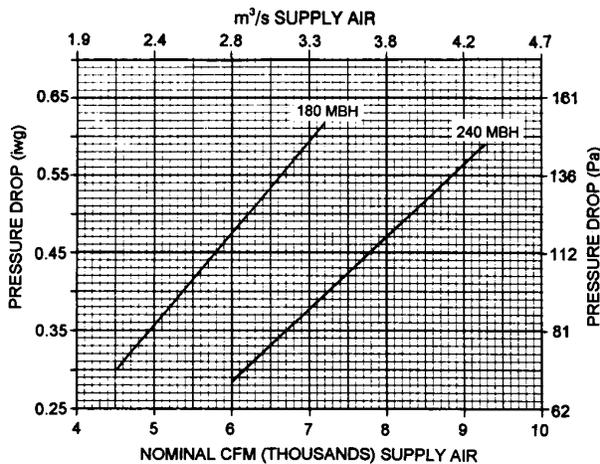

FIGURE 20 : PRESSURE DROP ACROSS A DRY INDOOR COIL VS. SUPPLY AIR CFM
4. Knowing the pressure drop across a dry coil, the actual CFM through the unit and clean 2" filters, can be determined from the curve in Figure 20.
5. On the inside of the flue collector box, remove the flue baffles from the tube interiors. Note the last bend of the baffle fits tightly against the tube forcing the end of the baffle to lock into the tube collar. This collar is formed when the tube is expanded into the end sheet. To remove, move the end of the baffle toward the center of the tube releasing the end of the baffle from the tube collar, then pull straight out of the tube. Refer to Figure 20.